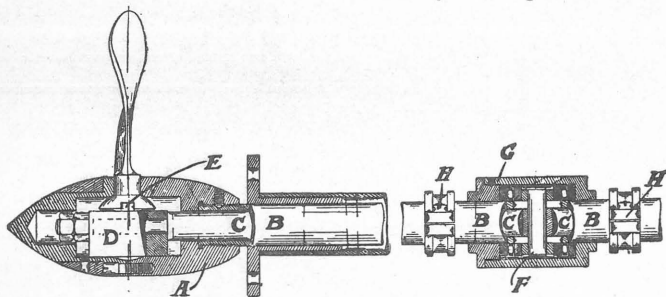

Fig. 5.—Reversing propeller mechanism.
Fig. 5 shows a well-known make of propeller in section and (on the right) the mechanism by which the blades are moved from inside the boat. The boss (A) is cut across
We will now turn to the means by which the block (D) is moved. The rod (C) (see right-hand portion of Fig. 5) is bored through to take a pin (F), and there is a long slot in the propeller shaft (B), through which the pin (F) projects on either side. The pin is carried by an outer sliding sleeve (G), fitted with ball thrust bearings, and the whole sleeve is controlled by a hand lever (not shown), by which it can be moved fore and aft to the limit of the slot in the shaft (B), thus feathering the propeller blades. In practice stop collars (H) are fitted to the propeller shaft, limiting the movement of the sleeve, and set by experiment to give the best speed with the engine of any particular boat.